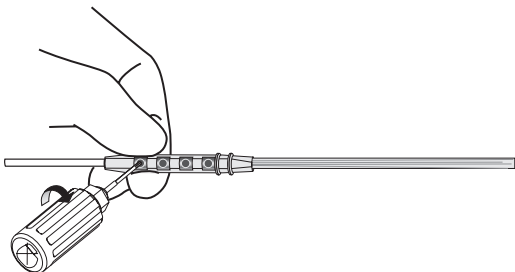

Figure 3. Tighten the setscrews holding the extension firmly on the sides of each connector block.
4. Use the torque wrench to tighten each setscrew to complete the electrical circuit. Hold the extension firmly on the sides of each connector block while tightening the setscrew (Figure 3).